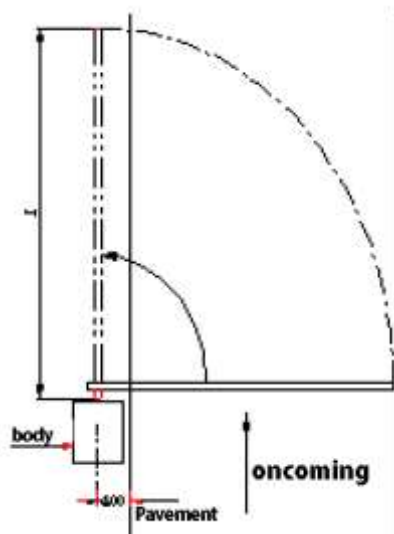

Fig. 3
- **Selecting a suitable foundation:** Foundation is required to be built 300mm away from the curb, there must be clearance for the arm to swing 90° upwards and away from the oncoming vehicles. (fig.3)